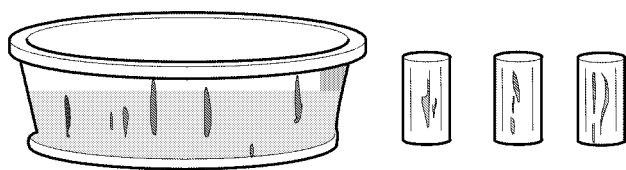

Figure 8.
- (4) Etching or pitting on functioning surface. Refer to Figure 8.